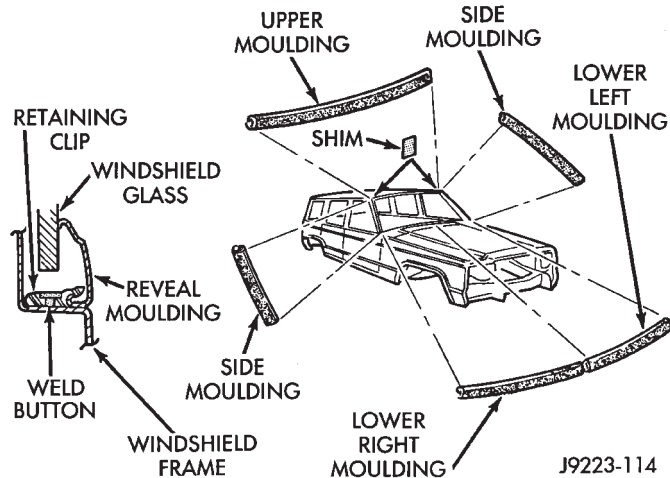

Fig. 4 Windshield Reveal Moulding
(1) Position mouldings on the windshield frame (Fig. 4).